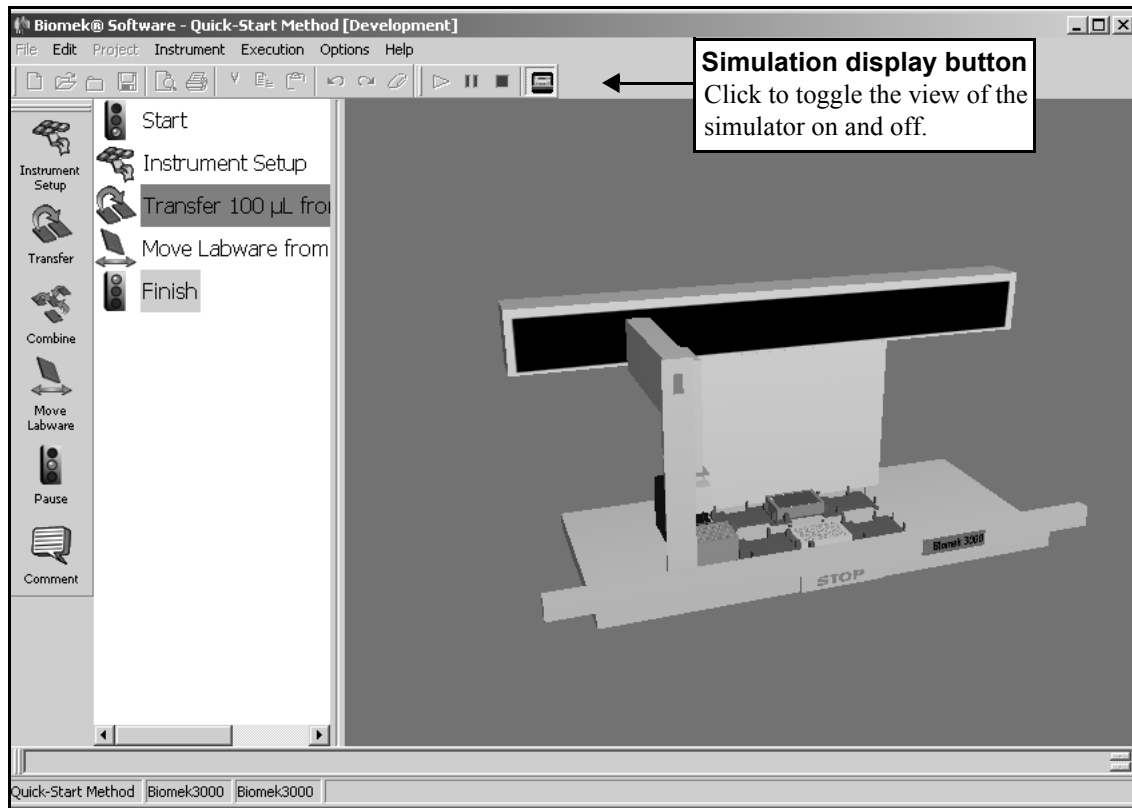
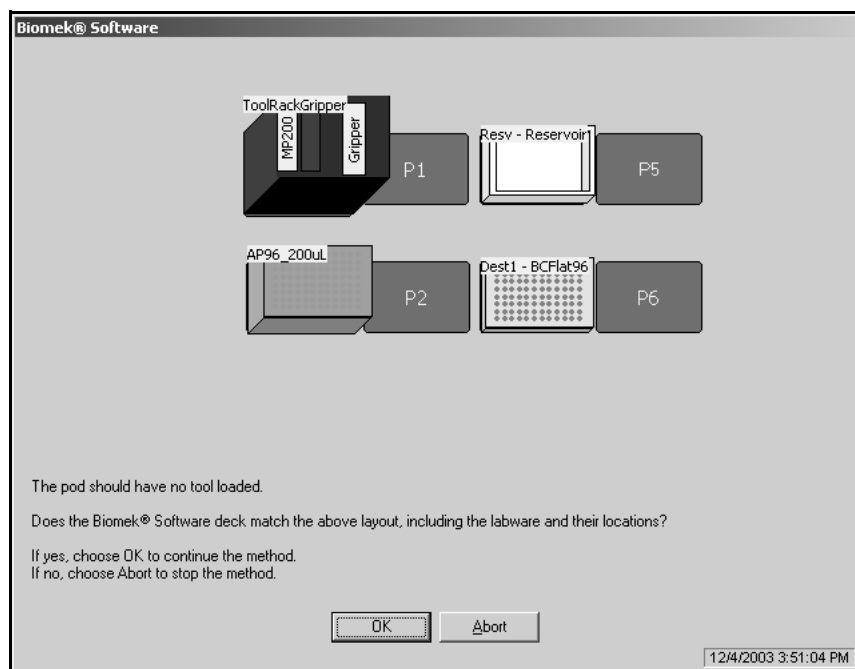

Figure 2-16. Biomek 3000 simulator displayed
Figure 2-17. Deck confirmation prompt for Quick-Start method
- Click on the **green arrow** button on the toolbar. The simulation display is automatically launched and the step configuration area is replaced with a three-dimensional model of your Biomek 3000 (Figure 2-16). The deck confirmation prompt (Figure 2-17) appears on top of the main editor.